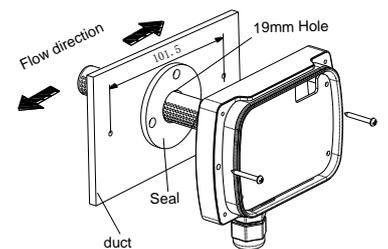

Fig.4
2. Install the enclosure directly on the duct as Fig.4. Drill a ϕ 19mm hole on the duct, insert the probe into with the seal ring, and screw the enclosure on the duct directly.